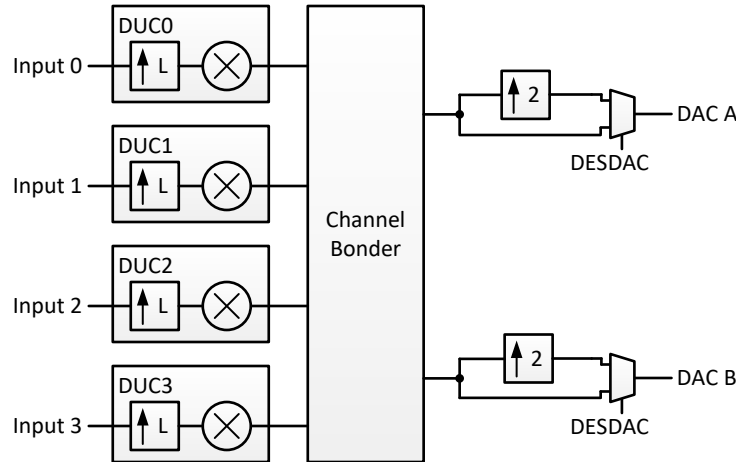

図 7-13. DUC Block with real output
The digital signal processing blocks are shown in 図 7-13. The device includes four digital up-converter (DUC) blocks supporting four complex (IQ) input streams that can be combined at different RF frequencies. The four DUCs can be flexibly assigned and summed together for either DAC output in the channel bonder. The final signal processing block is an extra interpolate by 2 filter for use with DES2XL/H mode.